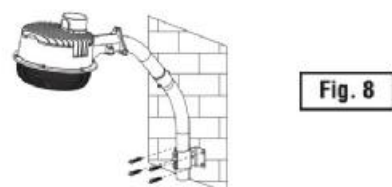

Fig. 8
7. Secure luminaire and arm to surface using four provided mounting screws, as shown in Fig. 8.